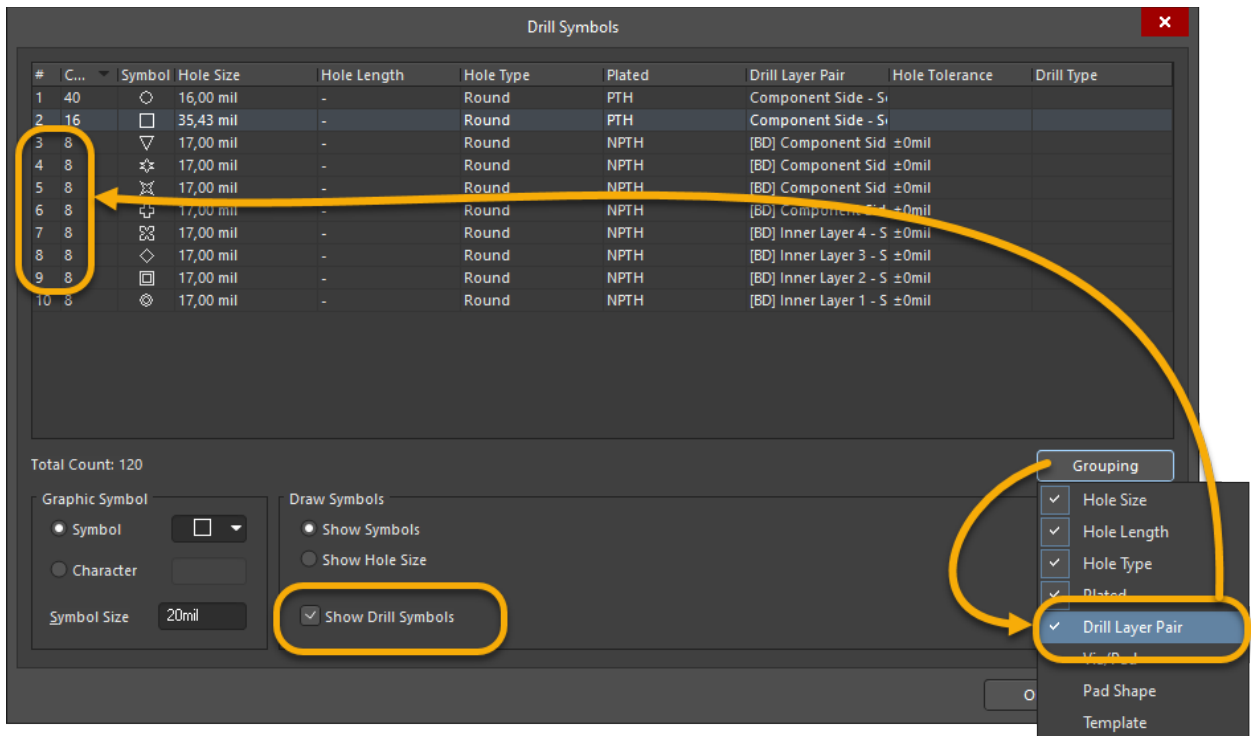

Figure 16 Open Drill Symbol configuration with option for visibility
23. If the table inside the *Drill Symbol* dialog does not show the information you expect, open the configuration **Grouping** to activate/ deactivate grouping parameters, use Figure 16 as reference.